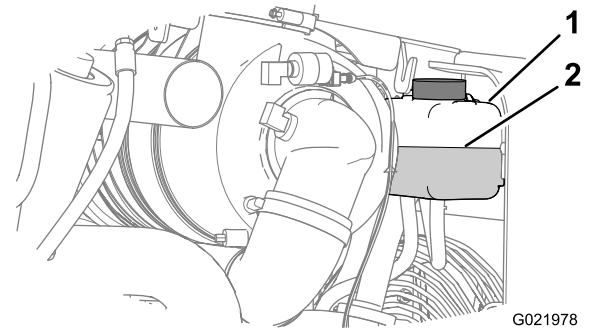

Figure 78
4. Check the coolant level in the reservoir (Figure 78).
Note: Ensure that the coolant level is between the Add mark and the Full mark on the reservoir (Figure 78).